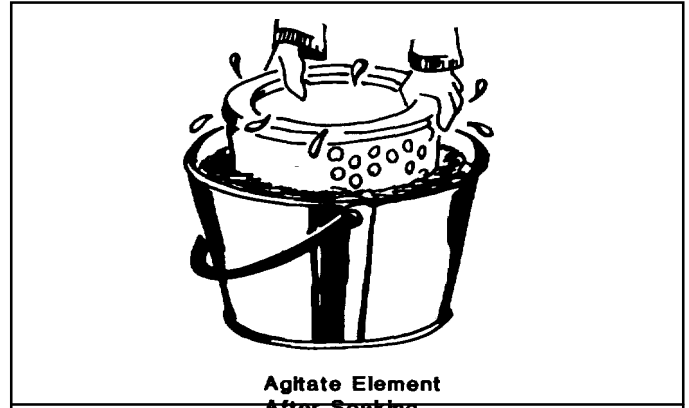

Fig. 2
- (2) Cleaning With Water (Fig. 2): Filter elements can be cleaned by washing with water and a good non sudsing detergent. If compressed air is available, first direct a jet of clean, dry air from the inside of the filter element. When the loose dust and soot is removed the element is ready to be washed.